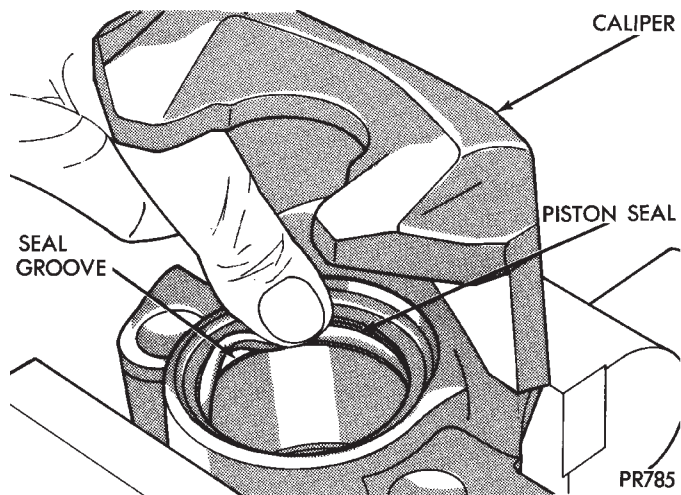

Fig. 169 Installing New Piston Seal In Caliper
(1) Clamp caliper in a vise (with protective caps installed on jaws of vise).
(2) Dip new piston seal in clean brake fluid and install in the groove of the caliper bore. Seal should be positioned at one area in groove and gently worked around the groove (Fig. 169), using only your fingers until properly seated. **NEVER USE AN OLD PISTON SEAL.** Be sure that fingers are clean and seal is not twisted or rolled (Fig. 169).